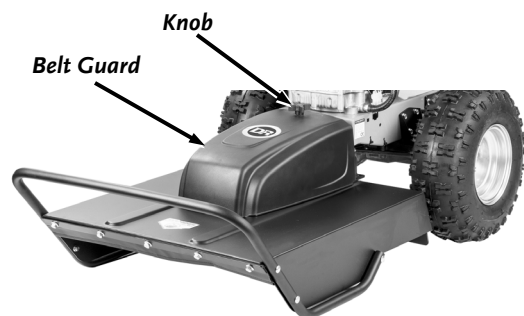

Figure 32
1. Unscrew the Hand Knob and remove the Belt Guard (**Figure 32**).